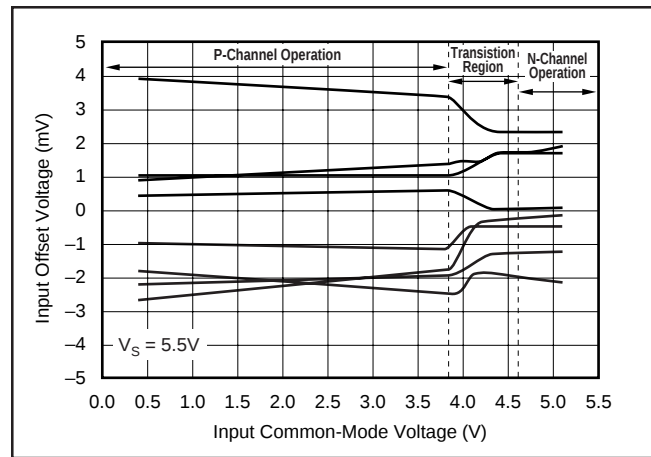
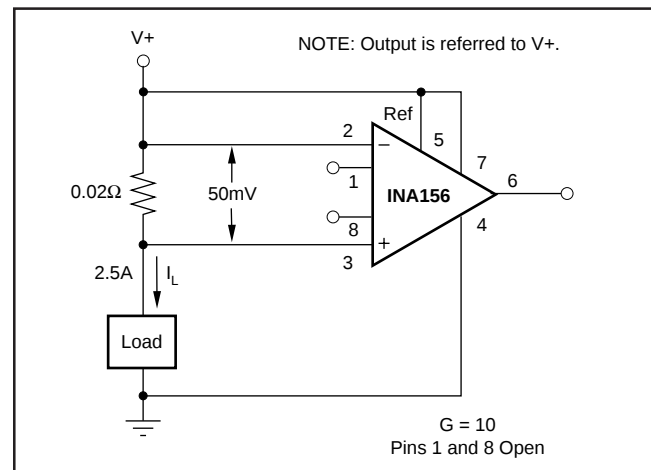

FIGURE 6. Input Offset Voltage Changes with Common-Mode Voltage.
FIGURE 7. Single-Supply, High-Side Current Monitor.
NOTES: (1) For further information, refer to typical performance curves on common-mode input range. (2) Operation beyond $(V_+ - 1.8V)$ (max) results in reduced common-mode rejection. See discussion and Figure 6 in the text of this data sheet. (3) Does not include error and TCR of additional optional gain-setting resistor in series with R_{G1} , if used.
The internal amplifiers have rail-to-rail input stages, achieved by using complementary n-channel and p-channel input pairs. The common-mode input voltage determines whether the p-channel or the n-channel input stage is operating. The transition between the input stages is gradual and occurs between $(V+) - 1.8V$ to $(V+) - 1V$. Due to these characteristics, operating the INA156 with input voltages within the transition region of $(V+) - 1.8V$ to $(V+) - 0.8V$ results in a shift in input offset voltage, and reduced common-mode and power supply rejection performance. Typical patterns of the offset voltage change throughout the input common-mode range are illustrated in Figure 6. The INA156 can be operated below or above the transition region with excellent results. Figure 7 demonstrates the use of the INA156 in a single-supply, high-side current monitor. In this application, the INA156 is operated above the transition region.